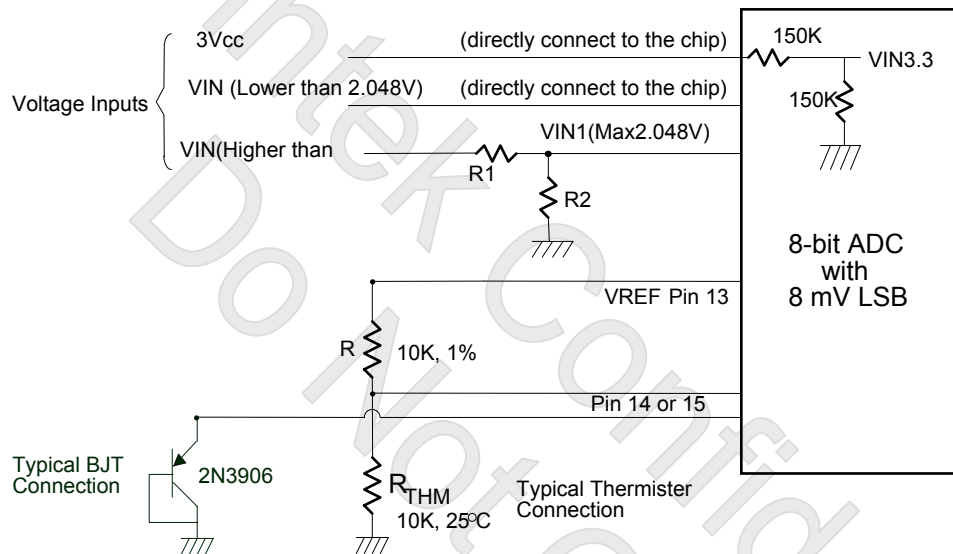

Figure 6-1
The F75387 can connect two thermistors to measure environment temperature or remote temperature. The specification of thermistor should be considered to (1) β value is 3435K (2) resistor value is 10K ohm at 25°C. In the Figure 6-1, the thermistor is connected by a serial resistor with 10K ohm, then connected to VREF (pin13).
Also, if the CPU, GPU or external circuits provide thermal diode for temperature measurement, the F75387 is capable to these situations. The build-in reference table is for PNP 2N3906 transistor, and each different kind of thermal diode should be matched with specific and BJT gain. In the Figure 6-1, the transistor is directly connected into temperature pins. For detail, please refer to application circuit.